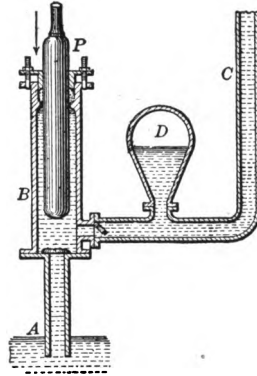

FIG. 69. Force pump.
**138. Force Pumps.** Force pumps are used on deep wells and in forcing water into storage tanks. They should be kept oiled; they should be operated with an even stroke, and the packing in them should be renewed if they leak air. In force pumps, the valves differ in their arrangement from suction pumps (Fig. 69).